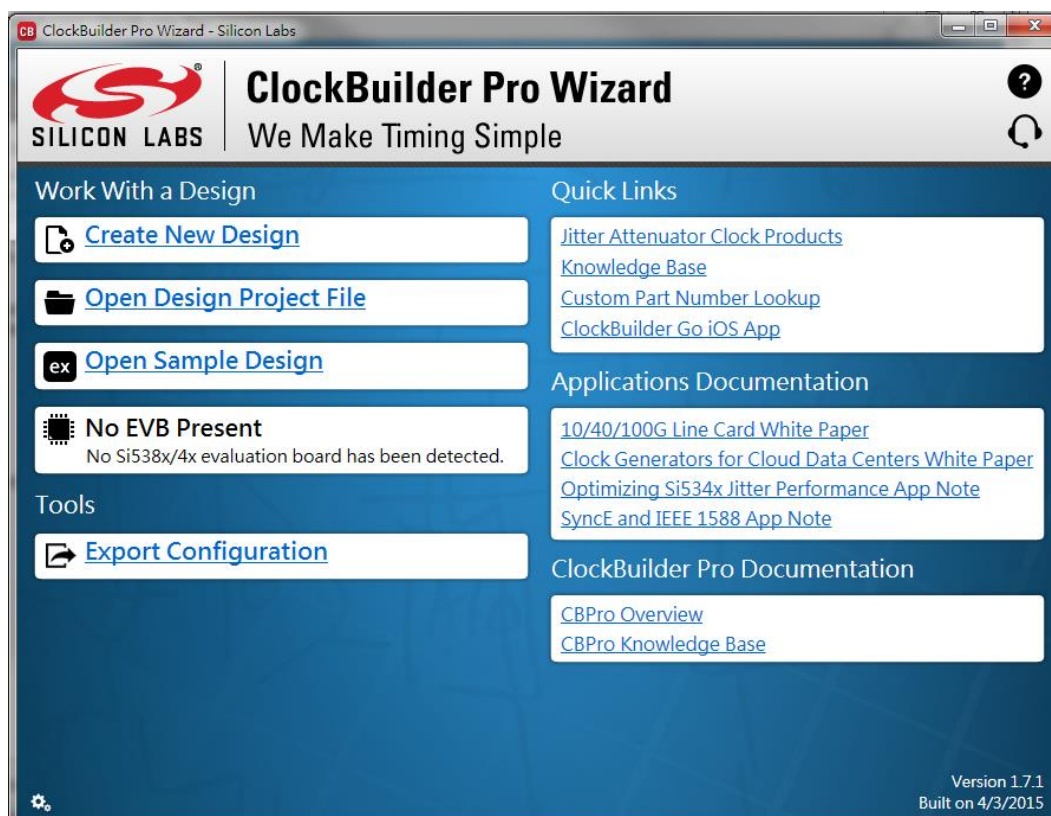

Figure 5-5 ClockBuilder Pro Wizard
1. Firstly, download ClockBuidr Pro Software (See **Figure 5-5**), which is provided by Silicon Labs. This tool can help users to set the Si5340's output frequency of each channel through the GUI interface, and it will automatically calculate the Register parameters required for each frequency. The tool download link: